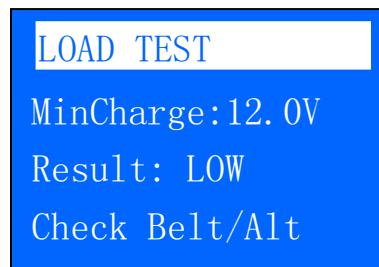
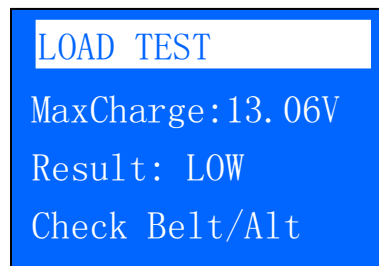

Fig.3
Fig.4
43. If either minimum or maximum charging volts are not within the voltage range limits then it will display one of the screen as below (Fig. 3 & Fig. 4) and it will prompt you to check the alternator system for the fault.